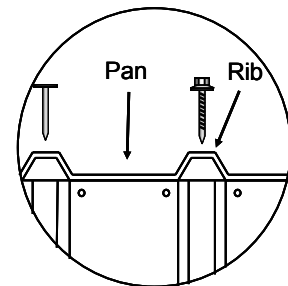

fig.2
- Using 4 x 50mm Clouts, predrill and nail the Roof Sheets to the Top Plates through the ribs, at each corner, ensuring ribs on the Roof Sheets line up with ribs on the Wall Sheets (**fig.2**).
- Screw the roof sheets to the front & back Top Plates, using 1 x Roofing Screw per rib. (**fig.2**).